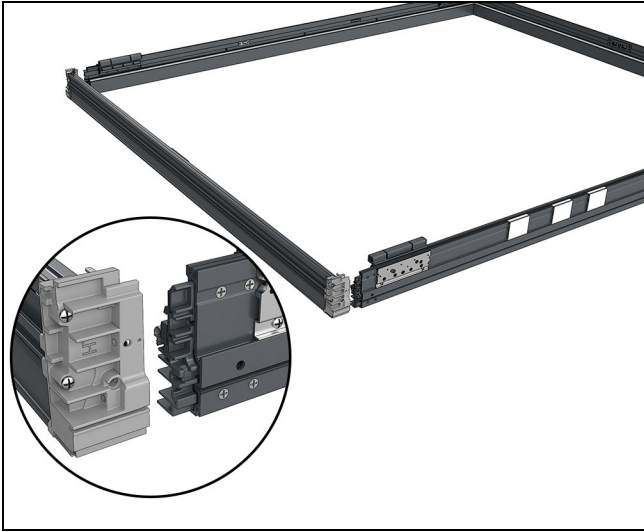
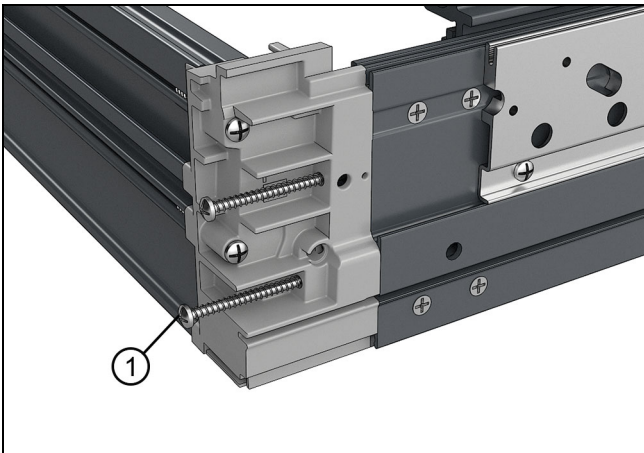

Figure 18
Figure 19
7. For performance and low profile sills, slide the sill with attached corner keys onto the jambs. Attach with #8 x 1 3/4" pan head screws. See Figure 18 and Figure 19.